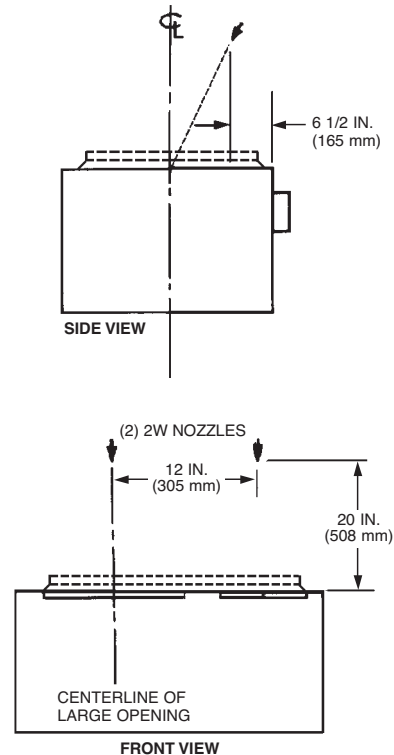

FIGURE 82
- **Nozzle Quantity/Type:** (2) Two 2W nozzles, Part No. 419337.
- **Nozzle Height:** 20 in. (508 mm) above top of appliance. See Figure 82.
- **Nozzle Location for Large Chamber:** 6 1/2 in. (165 mm) back from front edge of appliance. See Figure 82.
- **Nozzle Aiming Point for Large Chamber:** Aimed at center of opening. See Figure 82.